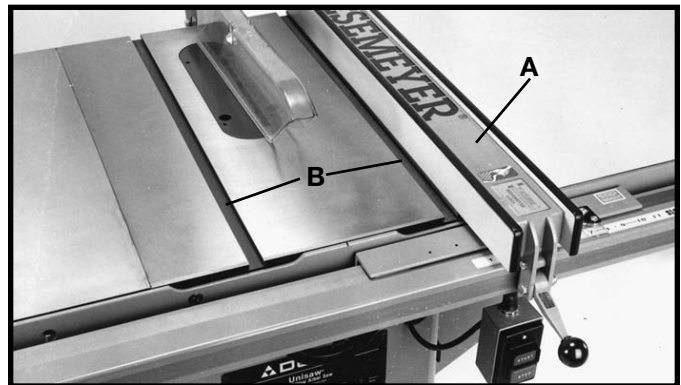
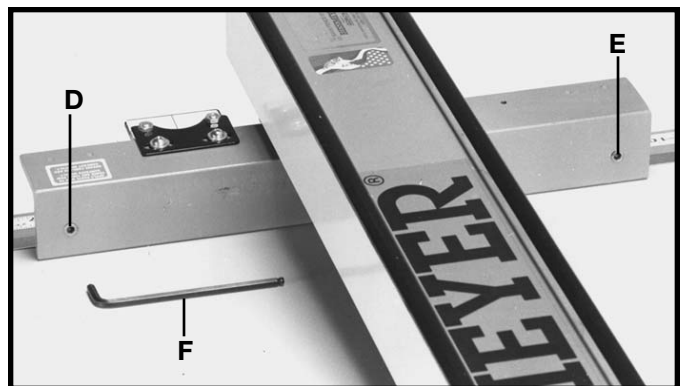
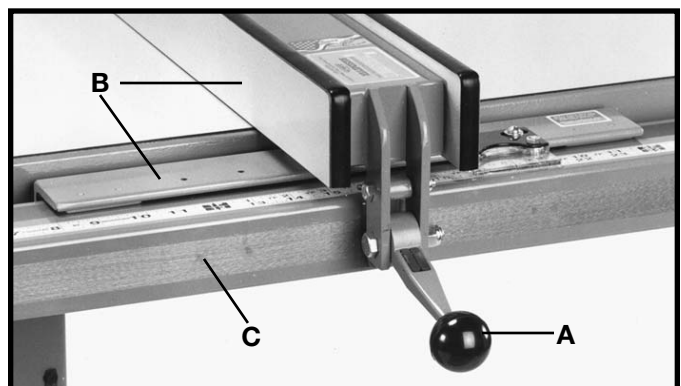

Fig. 103
Fig. 104
Fig. 105
The fence (A) Fig. 103, must be adjusted so it is parallel to the miter gage slots (B). To check and adjust, move fence (A) until the bottom edge of the fence is in line with the edge of one of the miter gage slots as shown, and push down on the fence clamping lever (C). Check to see if the fence (A) is parallel to the miter gage slot, the entire length of the table. If an adjustment must be made, lift up fence locking lever (C) and raise fence up off the guide tube, as shown in Fig. 104. Slightly tighten one of the two adjusting screws (D) or (E) Fig. 104, using a 3/16" allen wrench (F), not supplied. Replace the fence on the guide tube and check again to see if the edge of the fence is parallel with the miter gage slot the entire length of the slot. Repeat this adjustment until you are sure the fence is parallel with the miter gage slot.
When the fence locking handle (A) is pushed to the down position, as shown in Fig. 105, the fence assembly (B) should be completely clamped to the guide tube (C). If the fence assembly (B) is not completely clamped to the guide tube (C) when the handle (A) is pushed down, as shown in Fig. 105, lift up handle (A) and raise fence assembly (B) up off the guide tube (C). Slightly tighten the two adjusting screws (D) and (E) Fig. 104, using the 3/16" allen wrench (F) not supplied. Adjusting screws (D) and (E) Fig. 104, should be tightened an equal amount. Replace fence onto the guide tube and recheck to see if the fence assembly (B) Fig. 105, is completely tightened to the guide tube (C) with the locking handle (A) pushed down. Adjust further if necessary.